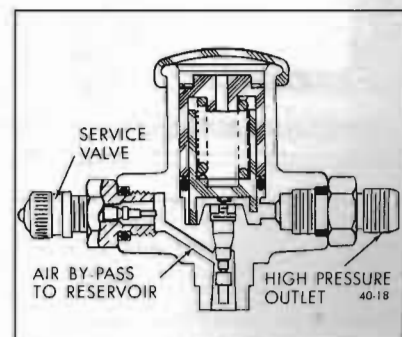

Figure 40-18—Pressure Regulator Valve
b. The pressure regulator valve is preset and limits the reservoir outlet pressure to approximately 125 psi to avoid damage to the height control valve and Superlift shocks. See Figure 40-18.